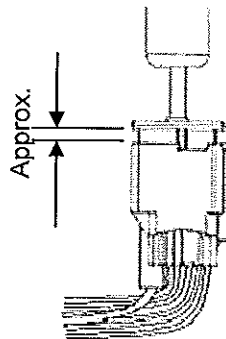

Fig. 5
- E. If the terminal alignment is not acceptable, the gauge will interfere with the terminal and stop approx. 4mm from the end of the hood. In this case, do not push the gauge. (See Fig. 5)